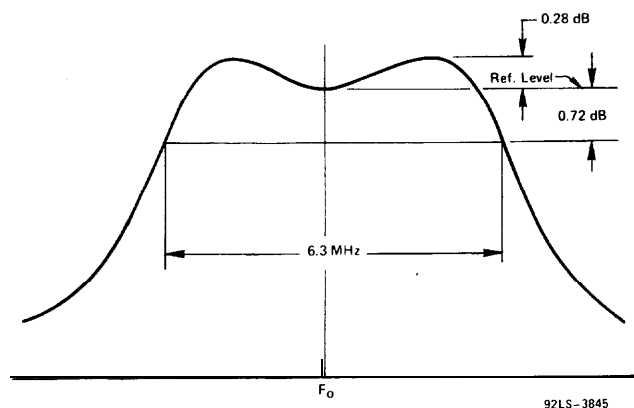

Figure 2 - Bandwidth Characteristics
22. The bandwidth of 6.3 MHz is calculated at the -0.72 dB power points of a doubled-tuned output circuit using two times the tube output capacity and a damping factor of $\sqrt{1.5}$ as illustrated in Figure 2.